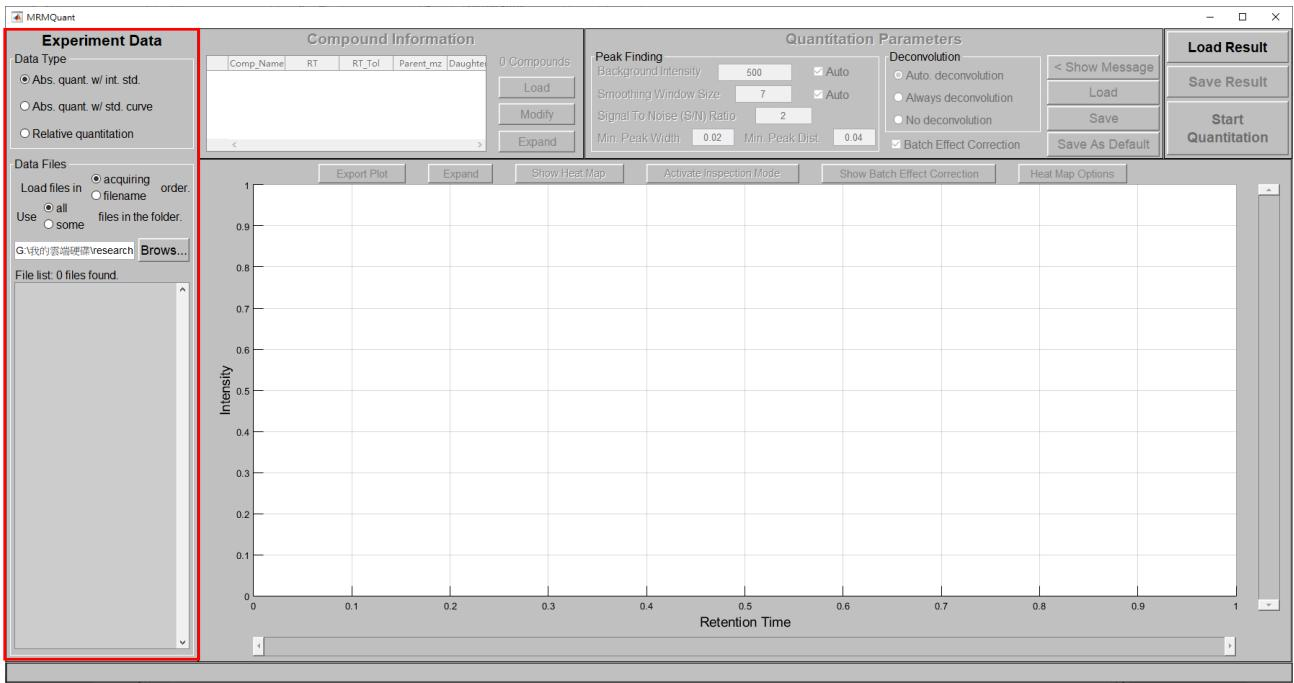

Figure 2. The graphical user interface of MRMQuant and the Experiment Data panel.
Figure 2 illustrates the workflow of MRMQuant. Briefly, the quantitation procedure starts from selecting a suitable experiment type followed by loading MRM sample files and a method file which provides the necessary information about the targeted compounds into the system. After setting the quantitation parameters, peaks in each of the sample files are detected and the ones corresponding to the targeted compounds are quantitated. Once the targeted compounds being quantitated in all the sample files, batch effect correction will be conducted if quality control (QC) samples are included in the sample files. Afterward, quantitation result is displayed for inspection and manual correction of the quantitated peaks can be made if required. For each quantitated compound, absolute concentration can be converted from the computed abundance via its corresponding IS of known concentration and/or a standard curve generated via a series of standard compounds of known concentrations. Similar quantitation procedure will be performed on the SC MRM files and absolute concentrations are to be converted from the computed abundances via the SCs. Finally, the quantitation result, including calculated abundances, concentrations, quantitation status, and retention times, and SC functions for all the targeted compounds will be exported to a Microsoft Excel file. In addition, a Matlab mat file will also be generated, which can be loaded into MRMQuant in the future to inspect and correct the existing quantitation result.
Figure 2. System Flowchart. The gray boxes in the right-hand side list the detailed functions in the peak quantitation and in the manual correction modules, respectively.
- 1 Start MRMQuant:** MRMQuant can be invoked by two methods, depending whether MATLAB has been installed in your computer. All the required files can be downloaded from <https://github/MRMQuant>. If MATLAB is not installed in your computer, download the files from the executable files from <https://github/MRMQuant/program/executable>. Double click on the "MRMQuant.exe" file in the folder to start MRMQuant, as shown in Figure 1(a). On the other hand, if MATLAB has already in your computer, download the MATLAB files from https://github/MRMQuant/program/MATLAB_source_code and then start MATLAB and run MRMQuant.m (as shown in Figure 1(b)) in the MATLAB editor. A graphical user interface should appear as shown below. At this stage, the **Experiment Data** panel will be activated for users to input MRM data-related information, as indicated by the red block in Figure 2.